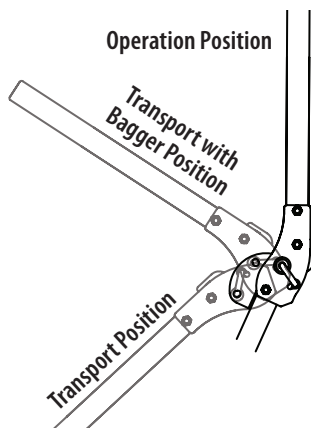

Fig. 23
Refer to Fig. 23 and the following descriptions and uses for the three (3) positions for the ROPS.
2. Move the ROPS into the desired position. The three positions are TRANSPORT position, TRANSPORT WITH BAGGER position and OPERATION position (Fig. 23).